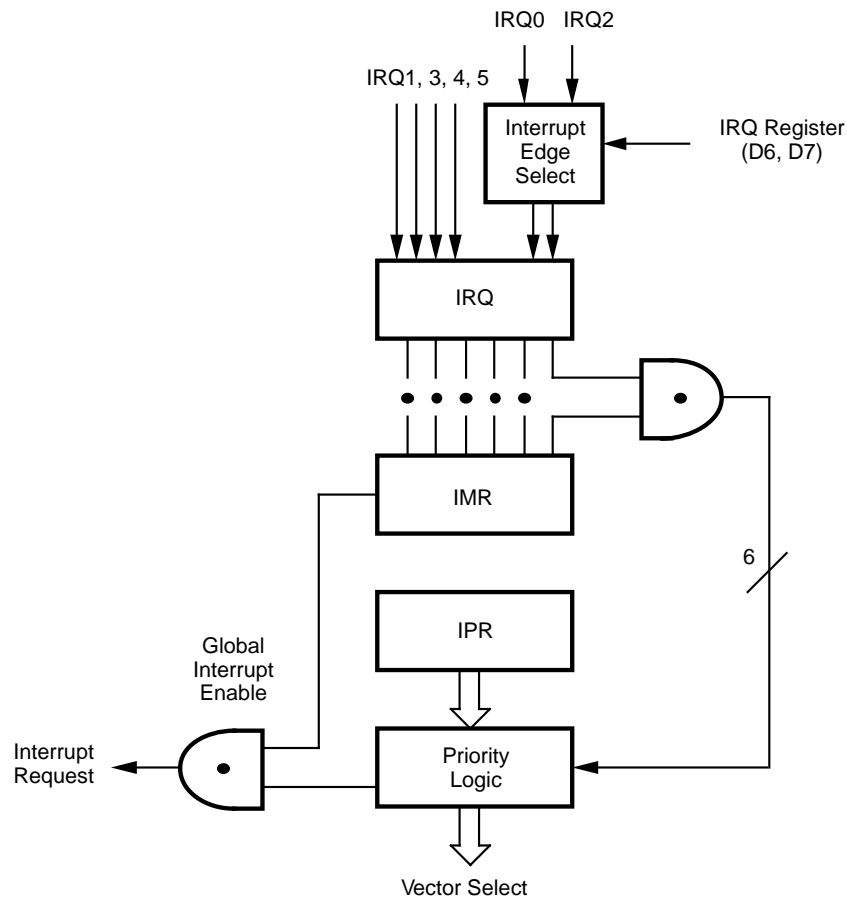

Figure 22. Interrupt Block Diagram
**Interrupts.** The Z8 has six different interrupts from six different sources. The interrupts are maskable and prioritized (Figure 22). The six sources are divided as follows; three sources are claimed by Port 3 lines P33-P31, two by